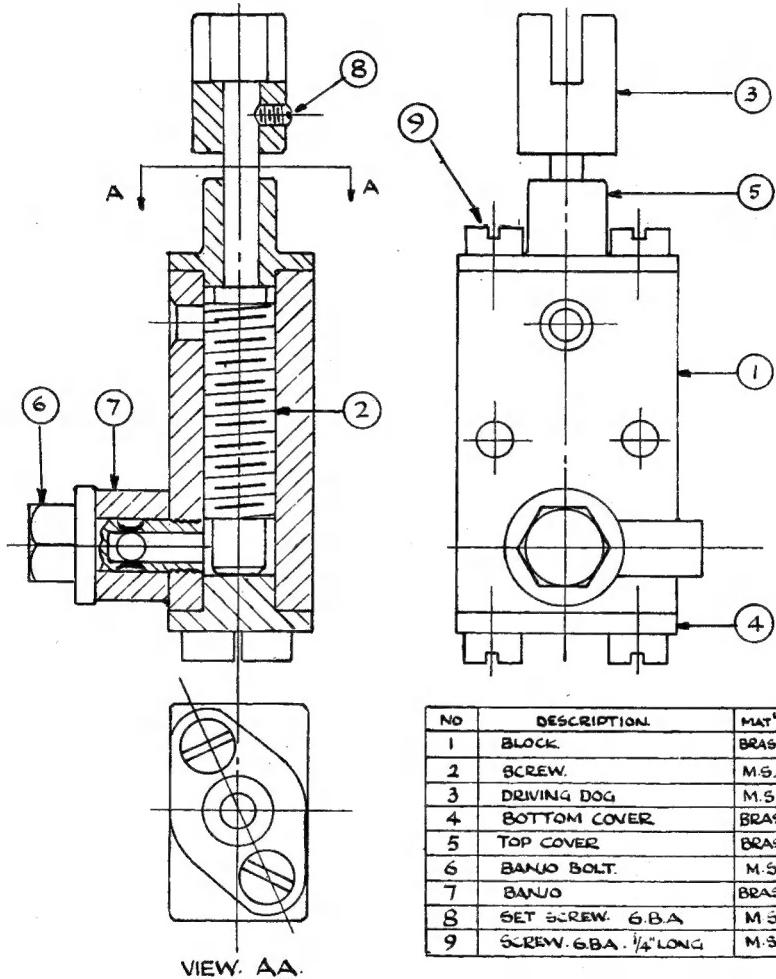

Fig. 1. Three views, one partly in section, of the small lubricating pump
Working drawings are given in Figs. 1 and 2. It consists simply of a brass block (1) having an accurately reamed hole through the centre. Rotating in this hole is a screw (2) integral with a spindle which carries a driving dog (3). The block is closed at the bottom by a cover (4), and at the top by the cover (5). A hole drilled in the side of the block lets oil into the pump and an outlet is tapped 2 B.A. to suit a bayonet fitting for a $\frac{1}{2}$ in. diameter copper delivery pipe.